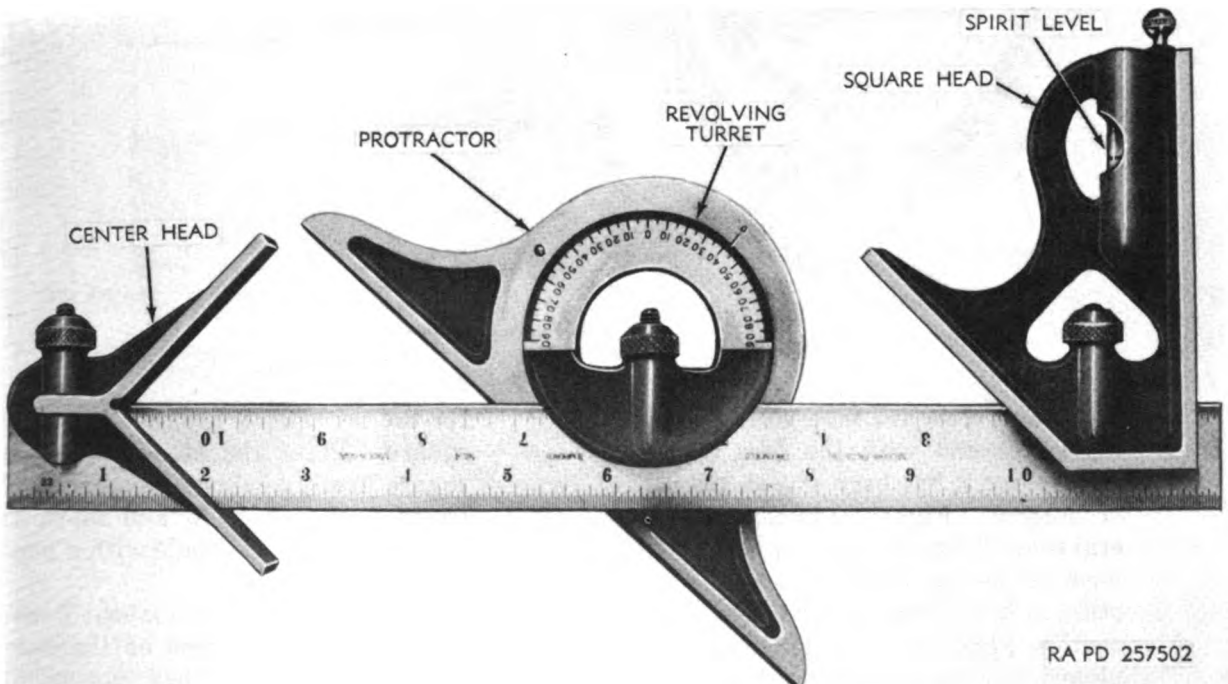

Figure 32. Combination square set.
- (2) By adding a center head on the combination try square, another combination is formed. By substituting the center head for the square head, a center square is obtained for finding the centerline of cylindrical objects. The center head is slotted so that the rule, when inserted, bisects the 90° angle. When used this way, the measuring surfaces become tangent to the circumference of cylindrical work.
- (3) The combination square set shown in figure 32 includes a protractor in addition to the square and center heads. The protractor can be inserted in the steel rule in the same manner as the square and center heads. The revolving turret can be graduated in degrees from 0 to 180 or to 90 in either direction. The square head contains a spirit level to facilitate the measuring of angles in relation to the horizontal or vertical plane. The protractor